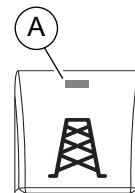

Figure 3-45. Utility Mode Button
- See Figure 3-45. On controller, deactivate utility mode by pushing the Utility Mode button.